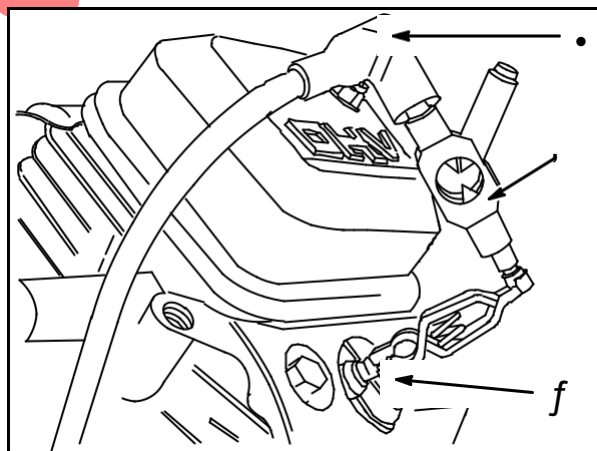

Fig. 5
Attach Ignition Tester #19368 (2) between each spark plug lead (1) and spark plug (3), **Fig. 5**.